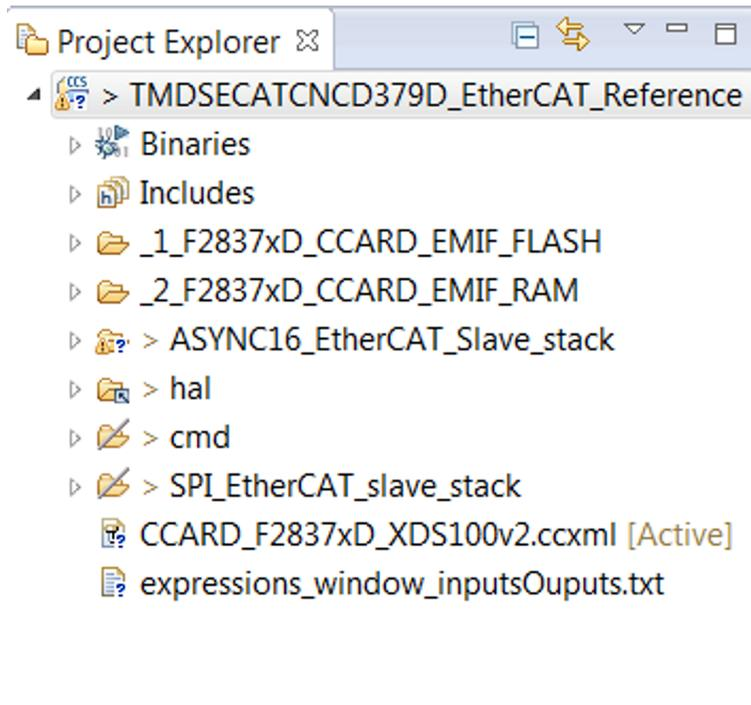

Figure 22. Project Folder
4. Click Finish, and the following screen appears (see Figure 22).